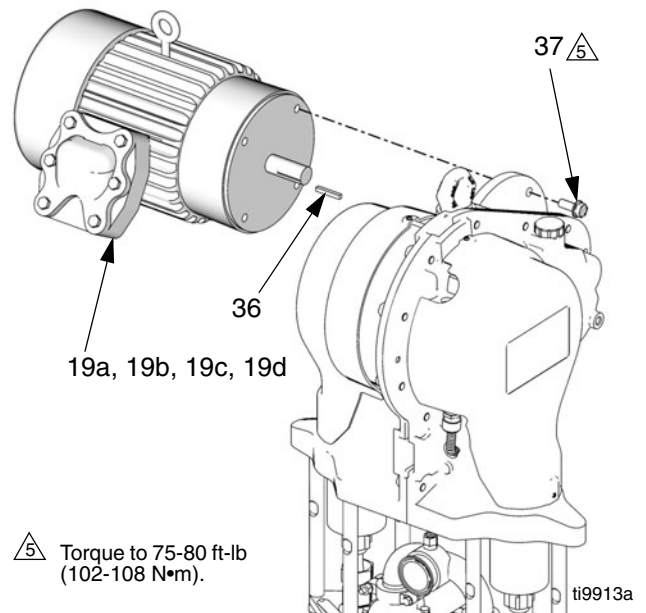

FIG. 2. Kit Installation (All Kits)
- See FIG. 2. Lift the motor (19) into position. Align the key (36) on the motor shaft with the mating slot of the motor coupler, and the four mounting holes with the holes in the gear reducer. Slide the motor into place.
- While one person supports the motor (19), install the screws (37). Torque to 75-80 ft-lb (102-108 N•m).